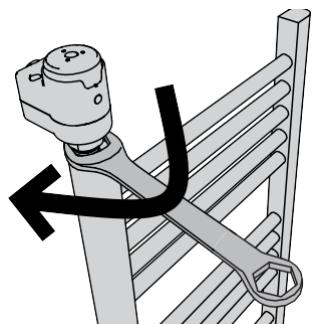

Fig. 6
5. Then using a 27 mm spanner screw the MOBUS heating element until the last nipple thread turn and if necessary continue in order to have the regulating box facing forward (Fig. 6).